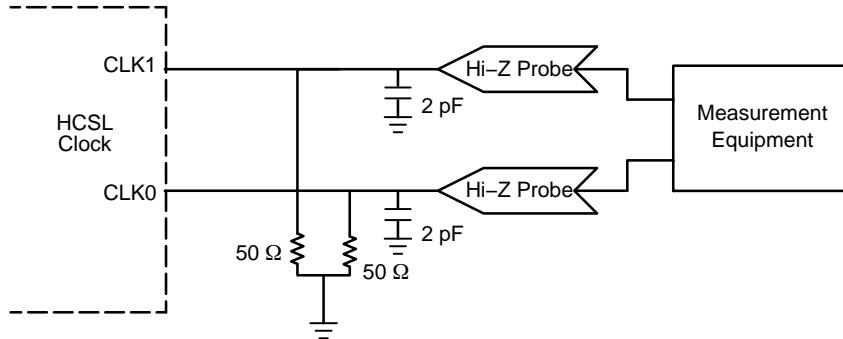

Figure 8. HC SL Parameter Measurement
6. Measurement taken with outputs terminated with  $R_S = 0 \Omega$ ,  $R_L = 50 \Omega$ , with test load capacitance of 2 pF. See Figure 8. Guaranteed by characterization.